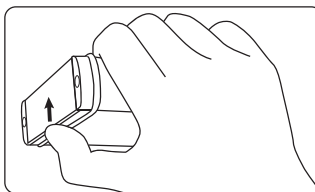

Fig. 1-1: Releasing the lock
- ☞ Press against the hinge lightly from below (see Fig. 1-1).